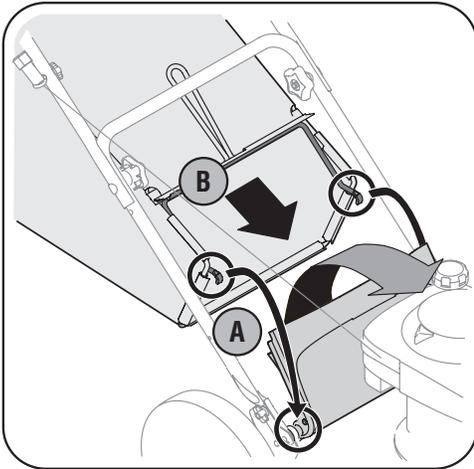

Figure 5
- a. Lift the rear discharge door on the mower, and place the grass catcher on the pivot rod. Let go of discharge door so that it rests on the grass catcher. See Figure 5.
- a. Lift rear discharge door on the mower as shown in Figure 5. Lift grass catcher up and out, off of the pivot rod. Release rear discharge door to allow it to close rear opening of mower.